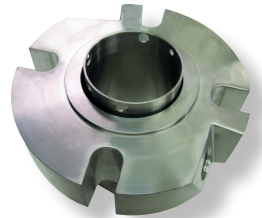

Figure 25
6.17 Place the outer gland assembly face down onto the sleeve assembly. See Figure 25.